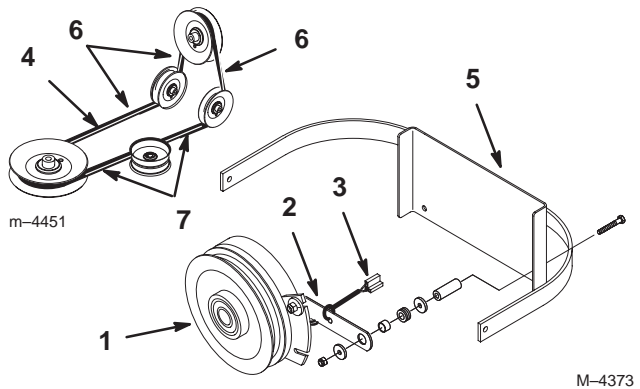

Figure 63
2. Remove the clutch retaining strap from the machine frame and unplug the clutch terminal from the wire harness (Fig. 63).
3. Remove the PTO drive belt from the rear idler arm and front idler pulley assembly. Remove the PTO drive belt (Fig. 63).
4. Place the new drive belt over the clutch, around the rear idler pulley, installed into the rear idler arm assembly, installed into the front idler pulley assembly, and onto the top center pulley (Fig. 63).
Important Check the amount of twist in the belt between the pulleys. Make sure that it is only what is specified in Figure 63.
5. Install the clutch retaining strap and plug the clutch terminal into the main wire harness (Fig. 63).